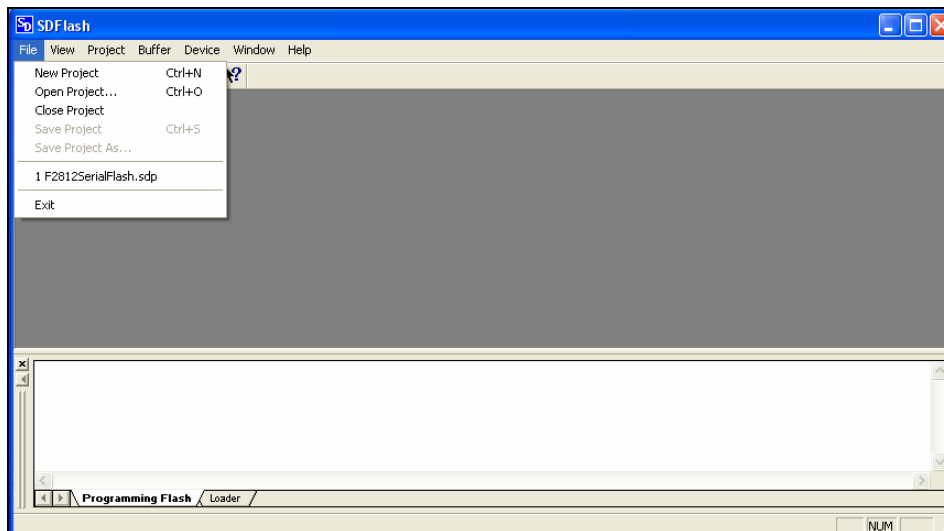

Figure 11: Select F2812SerialFlash.sdp in SDFLASH Utility
4. Go to File and select F2812SerialFlash.sdp. See *Figure 11*.
3.2. If SDFlash has been used on the host PC before, the File menu will contain the entries shown in *Figure 11*.